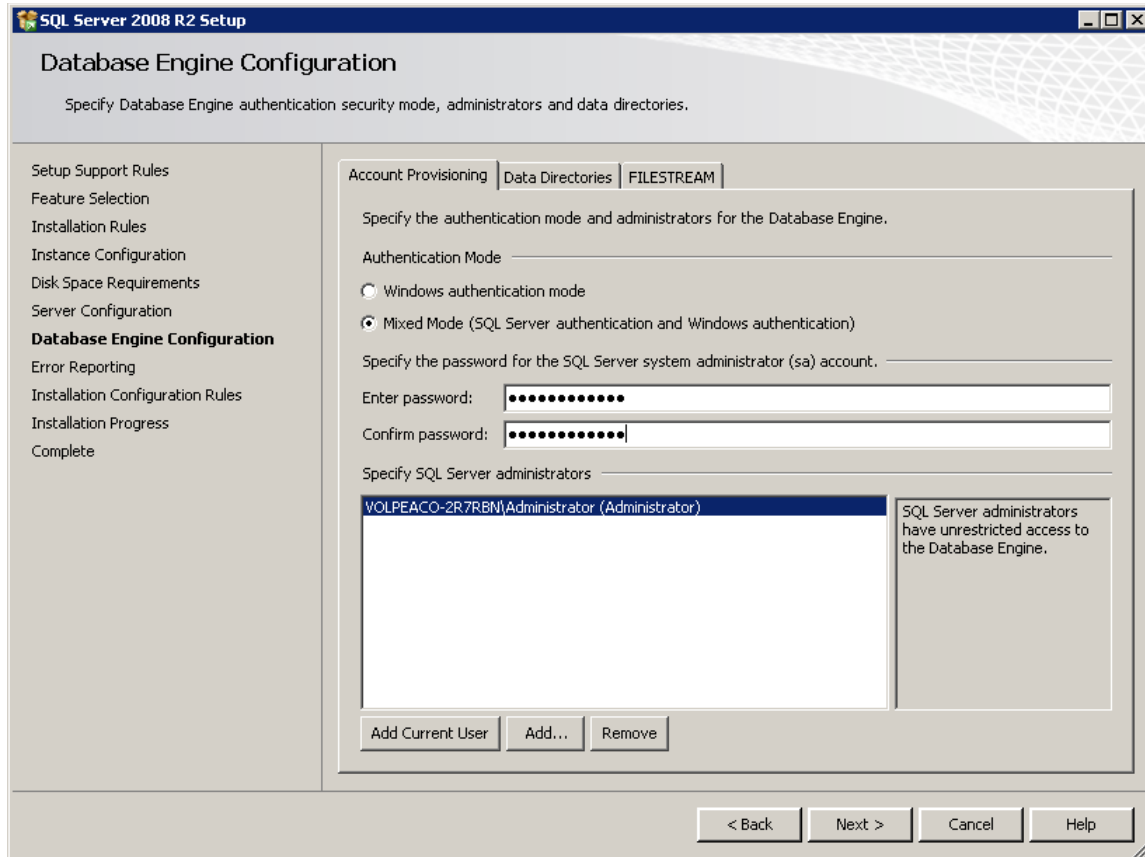

Figure 2-7 SQL Server 2008 R2 Setup – Database Engine Configuration
13. *Database Engine Configuration*: Select the *Mixed Mode* radio button. Enter a password that is at least 10 characters long. Click the *Add Current User* button (Figure 2-7). Click the *Next* button.